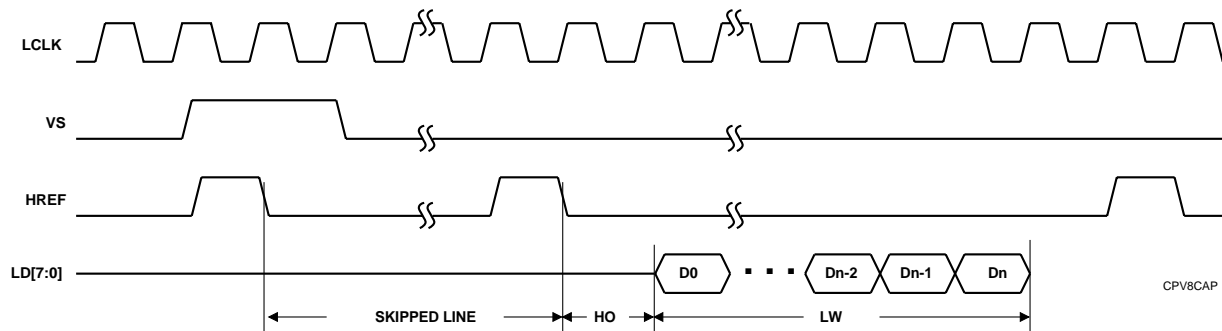

Figure 8-1. Video 8 Mode Input
The video data input protocol is shown in Figure 8-1. In this figure, both VSYNC (VS) and HSYNC (HREF) have active high polarity. The vertical offset (MMFF28_24-16) is 1, meaning the first line is skipped. The horizontal offset HO (MMFF28_11-0) is 1, meaning that the first data starts one clock after the second HREF goes low. HREF goes high again some time after the last byte of the line, whose position is specified by the line width (LW) programmed in MMFF24_11-0. The widths of the VS and HREF pulses shown may vary.